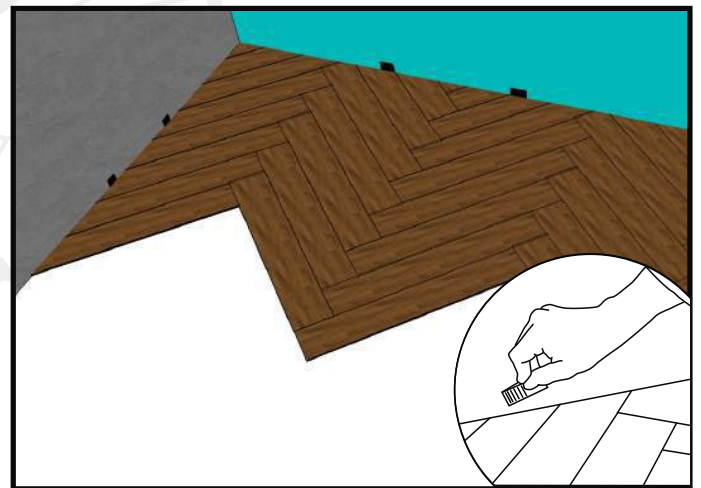

Figure 10
Step 9: Install a few more rows by following steps 5 to 7. Put in spacers between the HERF Herringbone® panels and walls to ensure an expansion gap of 3 to 5mm (**Figure 10**).